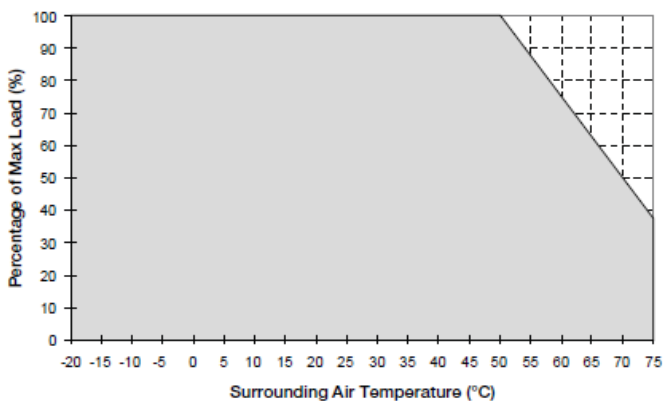

Fig. 1.1 De-rating for Vertical Mounting Orientation
1. Power supply components may degrade, or be damaged, when the power supply is continuously used outside the shaded region, refer to the graph shown in Fig. 1.1 & 1.2.